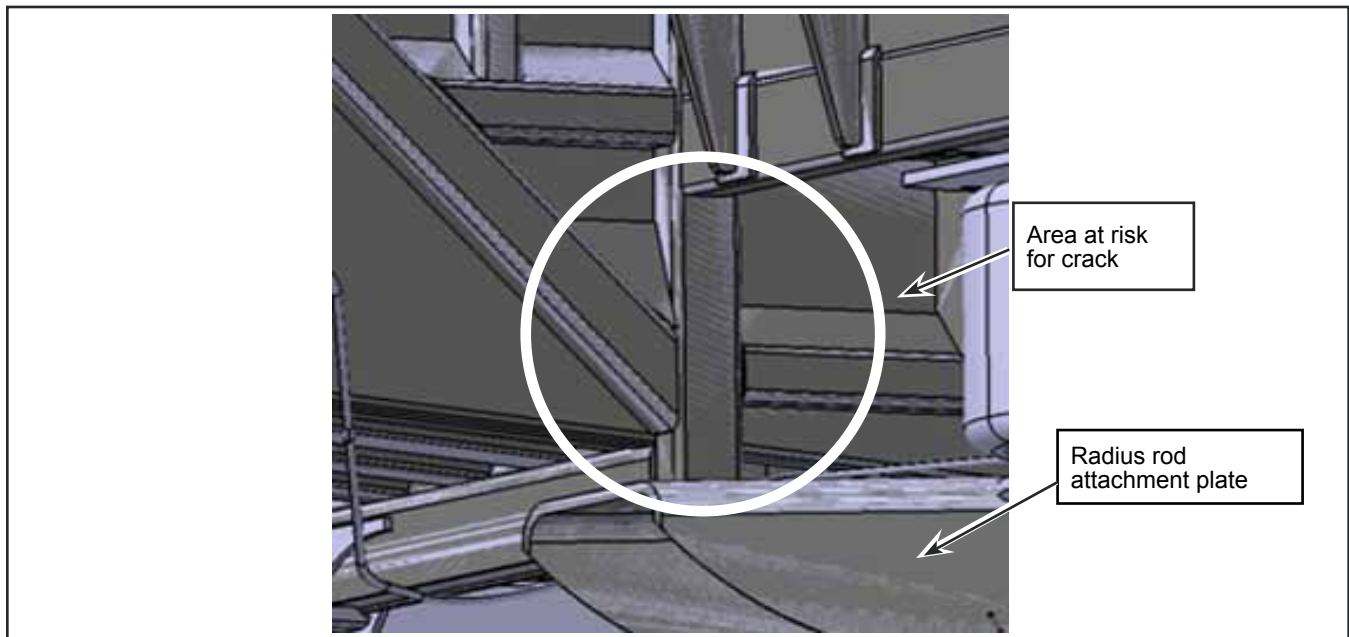

Figure 1 - Area at Risk of a Crack
This information letter applies only to vehicles with a crack located near the radius rod attachment plate. See Figure 1 for the area at risk of a crack.
- 1.8. Remove the p-clamp holding the pneumatic hoses and electrical cable, located in the zone to be reinforced. Retain the hardware and the p-clamp. See Figure 1.